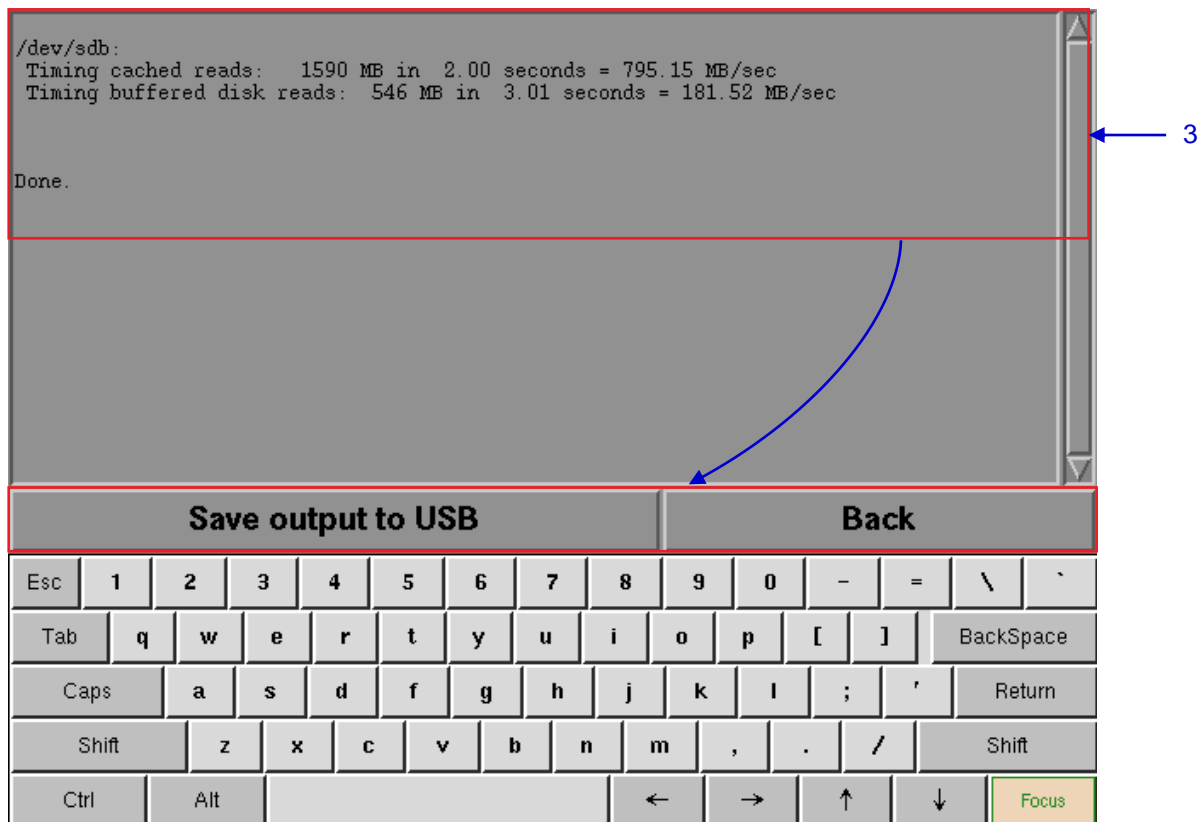

Figure 90 Shows information on storage performance of the selected hard disk.
- 3** A new window showing information on hard disk performance appears as seen in **Figure 90**.